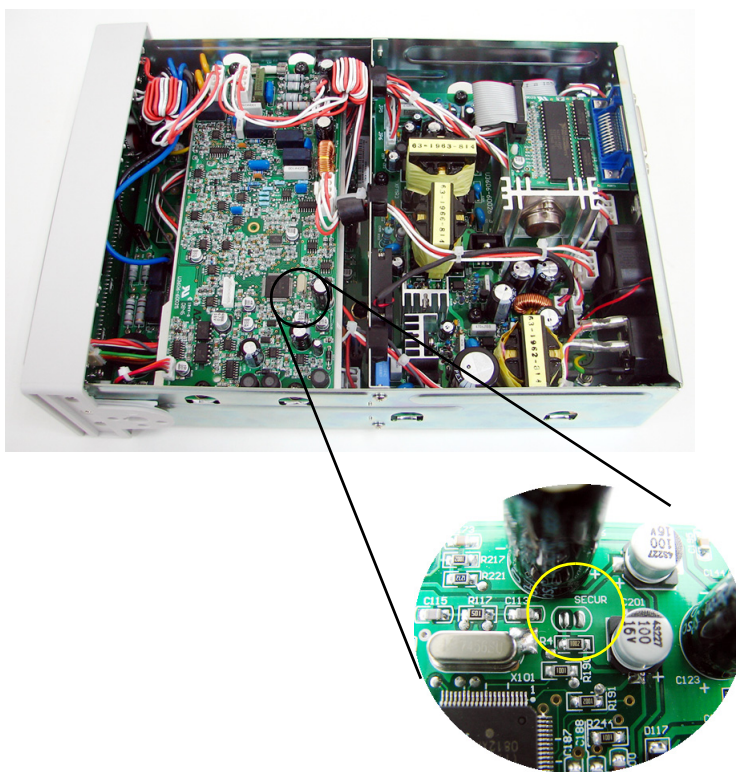

Figure 6-1 SECUR pads location
- 3 Solder a temporary short between the two exposed metal pads on the main printed circuit (PC) board assembly. The general location is shown in Figure 6-1. On the U3606A PC board, the pads are marked as “SECUR”.